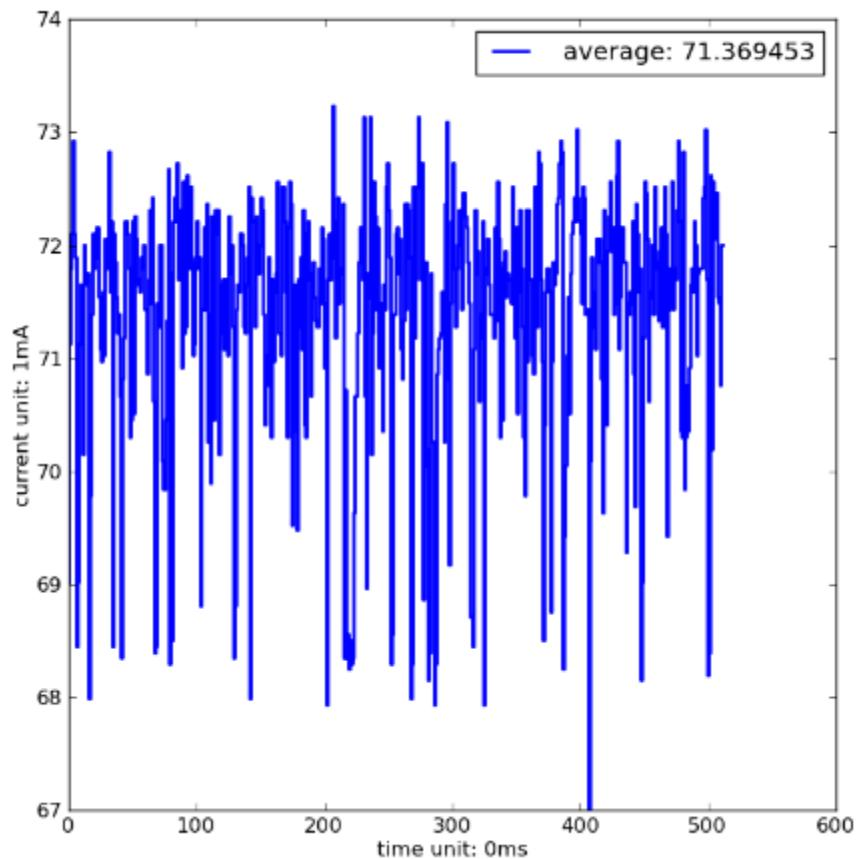

Figure 4-15. Current Measurement of Packet Receive Operation Power Consumption Test #2
- Execute the Python script to run the power consumption test on ESP-Launcher in the mode of 802.11b, CCK 11 Mbps, Pout = +17 dB. The average power consumption is 163.96 mA, as Figure 4-15 shows:
- Execute the Python script to test the power consumption when ESP-Launcher receives 1024 bytes long packets in an environment of IEEE 802.11g standard and -70 dB transmit power. The average power consumption is 71.36 mA, as Figure 4-15 shows: